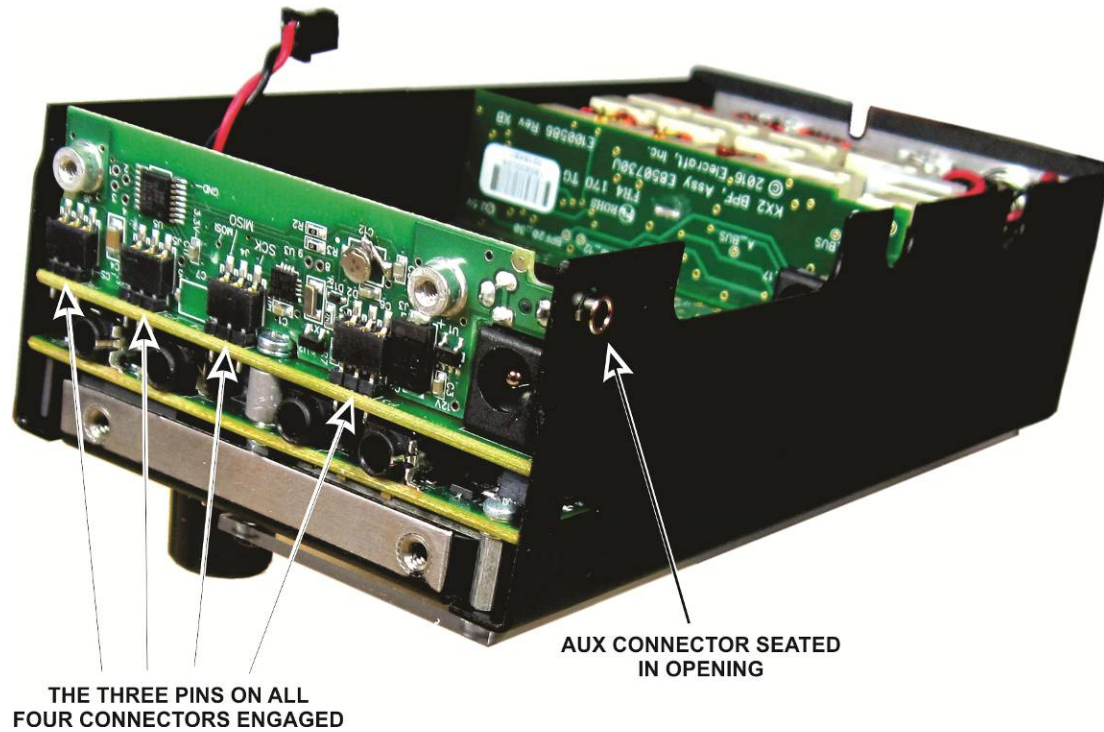

Figure 5. KIOX2 Board Installed.
- Be sure all four connectors are engaged and the AUX connector is positioned in the hole in the side of the case as shown in Figure 5.